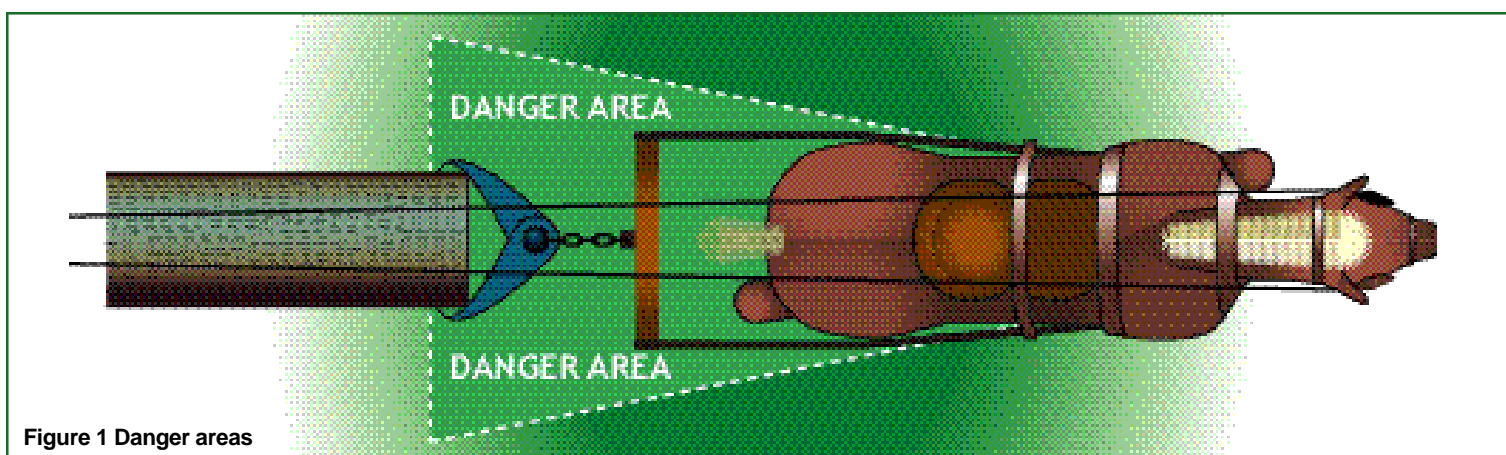

Figure 1 Danger areas
- avoid being caught between a tree/obstacle and the load on tight turns or in confined spaces (see Figure 1);